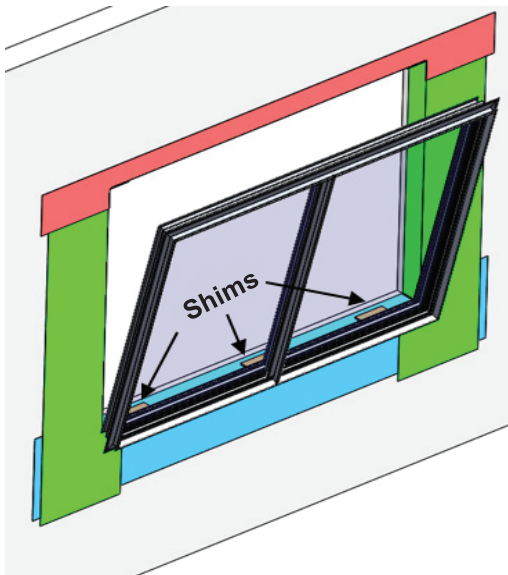
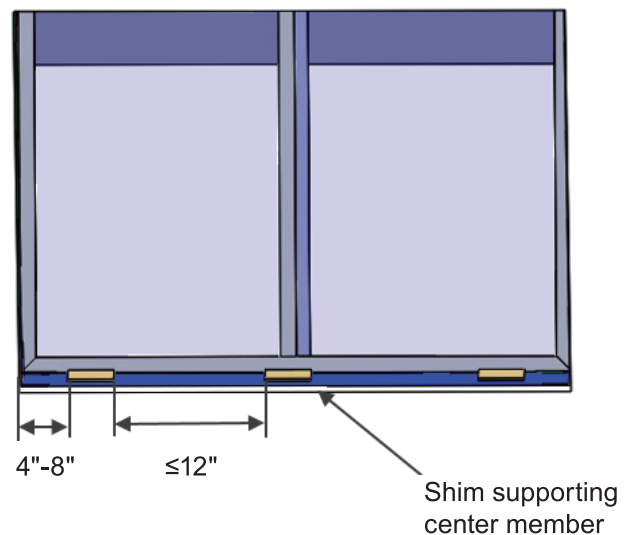

FIGURE 4A
FIGURE 4B
6. If sill is not level use high compression strength plastic or hardwood shims across the entire sill (Spaced per Figure 4b) to prevent sagging and insert the window into the opening (Shown in Figure 4a). Use shims as necessary to adjust the window so that it's plumb, level and square in the opening. A shim should be placed between 4" and 8" from each jamb to support the window without placing excess stress on the corner miter. Shims should be no more than 12" apart in order to fully support window. Any mullion member should have a shim directly supporting it. (See Figure 4b)